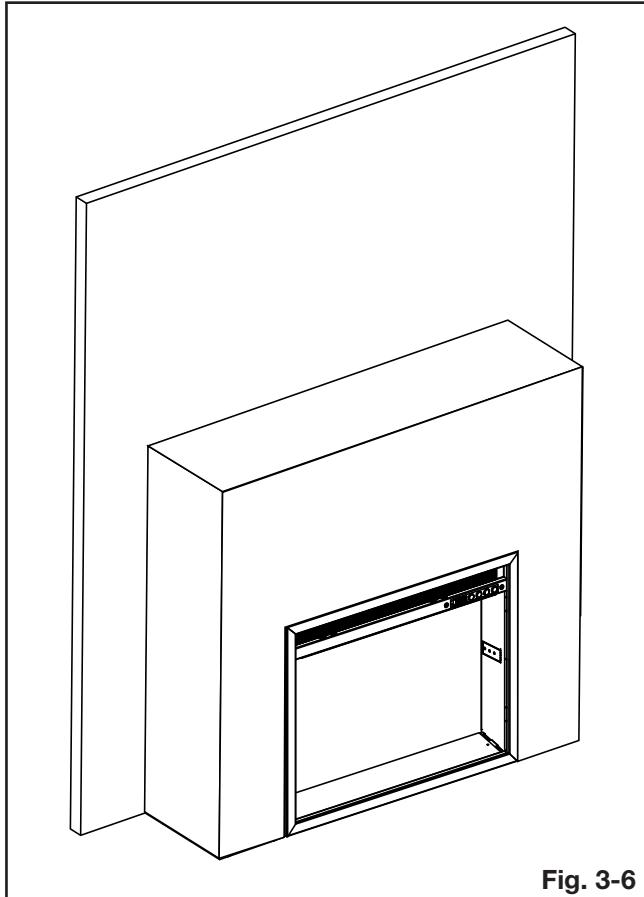

Fig. 3-6
6. Carefully lift the appliance into the finished framing (**Fig. 3-6**).